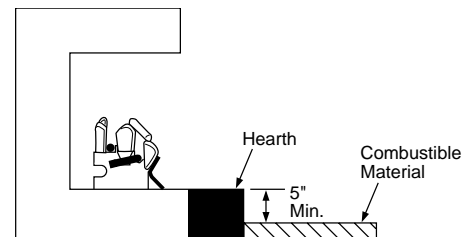

Figure 10 - Minimum Fireplace Clearances Above Combustible Flooring
- B. If combustible materials are less than 14" to the fireplace, you must install appliance at least 5" above the combustible flooring (see Figure 10).